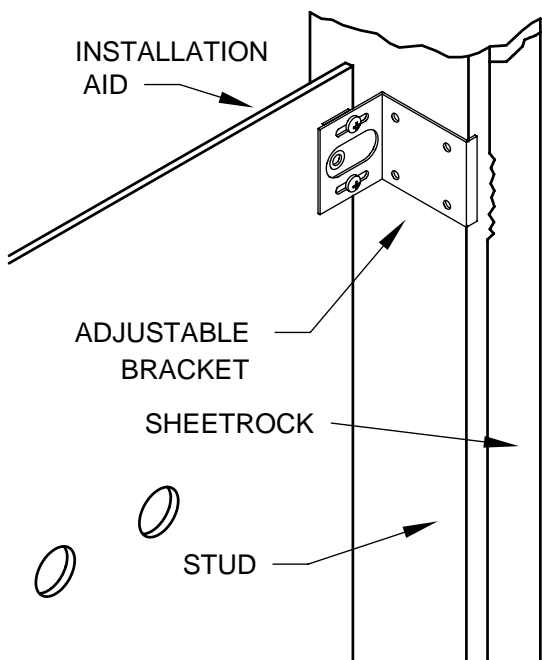

fig. 16
4. Extend the adjustable brackets until they make contact with the opposite studs. Slip the lip of the adjustable brackets between the stud and the drywall. Fasten the adjustable brackets to the stud with #6 x 1" sheetrock screws. (please see fig. 16)